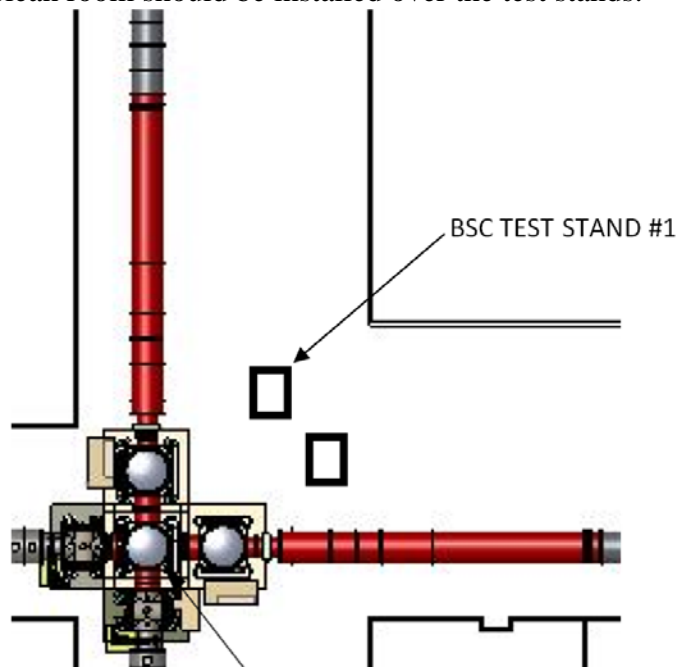
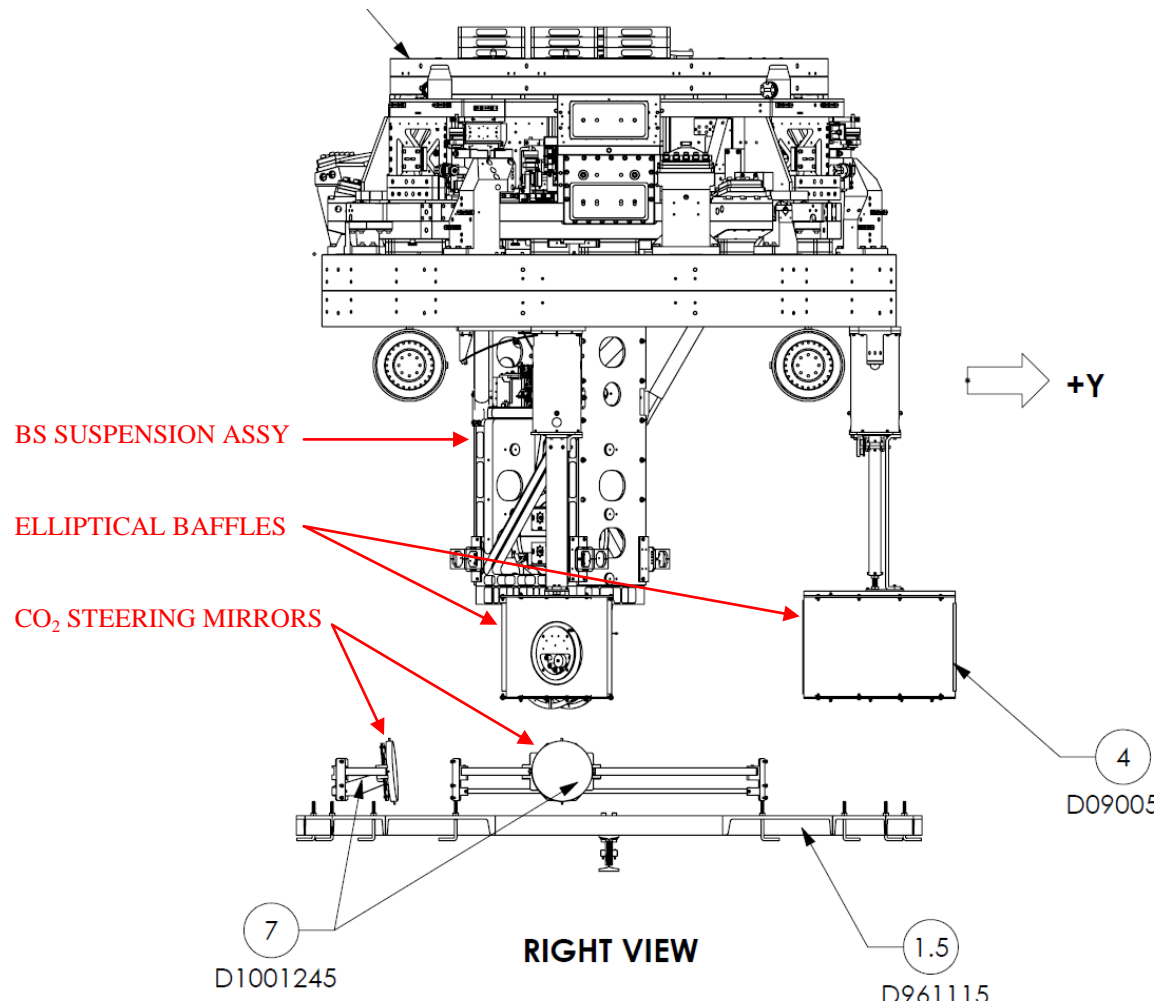
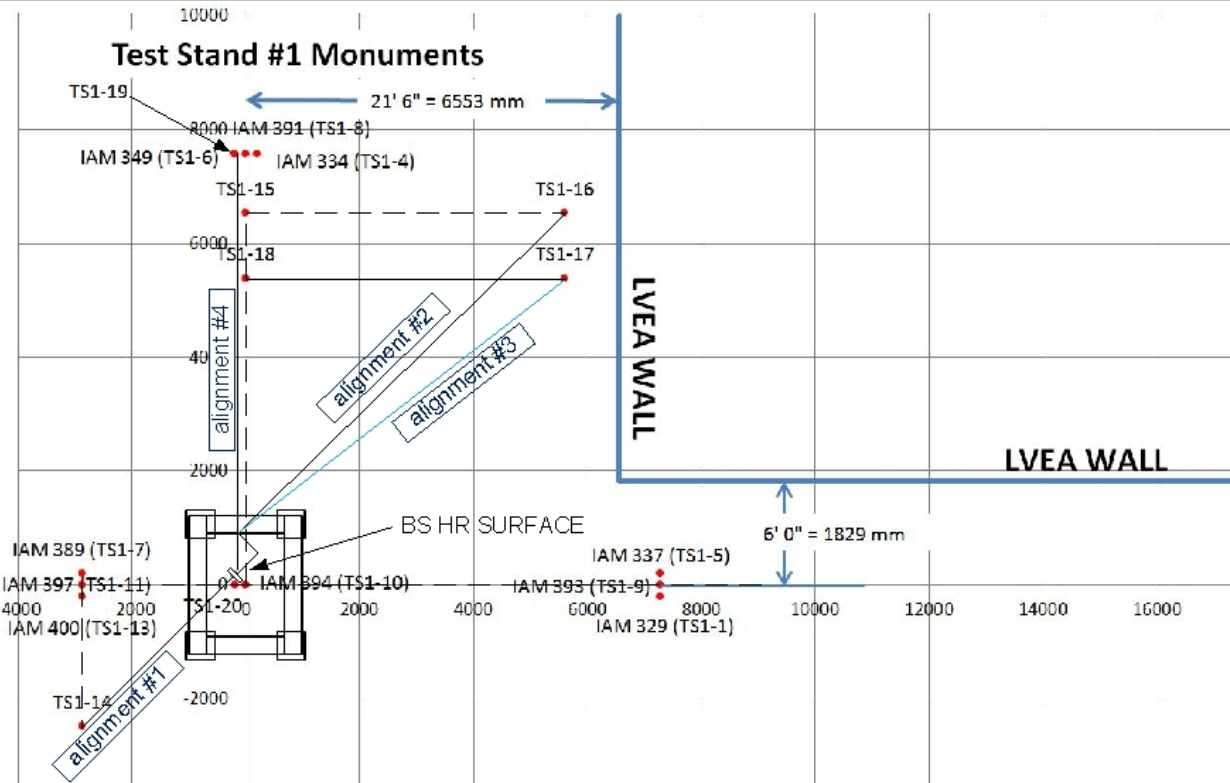

Figure 1: Test Stand location within the Corner Station VEA
Figure 2: The LBSC2 cartridge assembly (from D0900428)
Figure 3: IAS Instrument Positions and Lines Of Sight (LOS) for the LBSC2 Cartridge Assembly Alignment
- The features of the BSC mechanical test stand which interface to the BSC-ISI platform shall be used to establish a centerline and two offset lines with alignment monuments/references in the floor, as depicted in the E1100374 (see also Figure 3).
The LBSC2 cartridge assembly is to be assembled on LLO Mechanical Test Stand #1 (TS1), which is the test stand to the southeast (see E1100374 and figure 1). The support tubes are oriented in the Y-direction, or north-south direction. The LBSC2 cartridge has been placed on the test stand rotated 90 degrees clockwise from the orientation it will have in LBSC2. The reference monuments for the cartridge assembly on test stand #1 are given in E1100374 and in Figure 3 for convenience.
The LBSC2 cartridge assembly is depicted in Figure 2. The major optics assembly integrated into the LBSC2 cartridge is the Beam Splitter, a part of the suspension assembly (D1000392). The two Elliptical Baffles (D0900525) are not installed on the cartridge assembly while it is on the test stand due to interference with the test stand structure. They will be installed after the cartridge is installed in the chamber. The positions and Lines Of Sight (LOS) for the LBSC2 cartridge assembly alignment are depicted in Figure 3.
- Set the LTHP at approximately the same height as the laser autocollimator mounted on the total station, in approximately the position shown in Figure 3